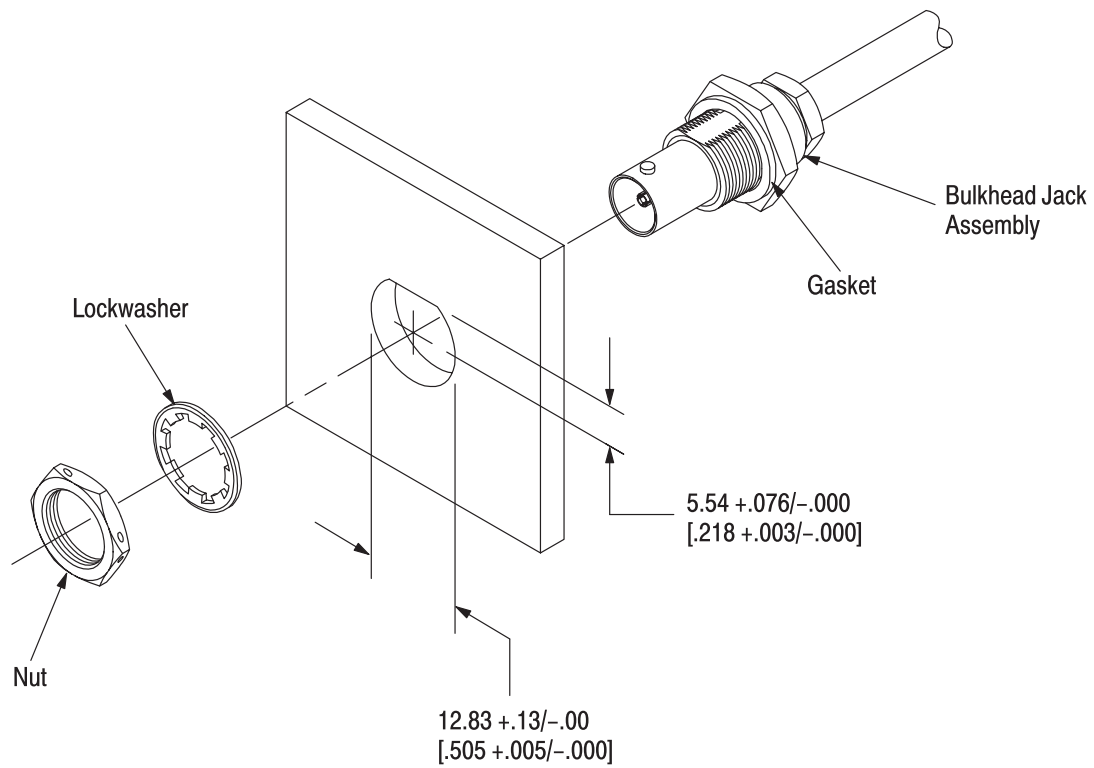

Figure 8
7. Make the panel cutout using the dimensions in Figure 8. Slide the gasket onto the connector assembly; then insert the connector into the panel cutout. Secure the connector with the lockwasher and nut. See Figure 8.